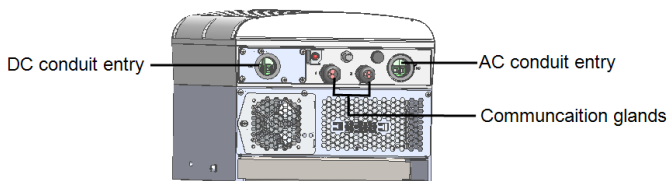

Figure 43: Primary Unit interface
1. Connect the DC, as follows, see *Figure 43*: